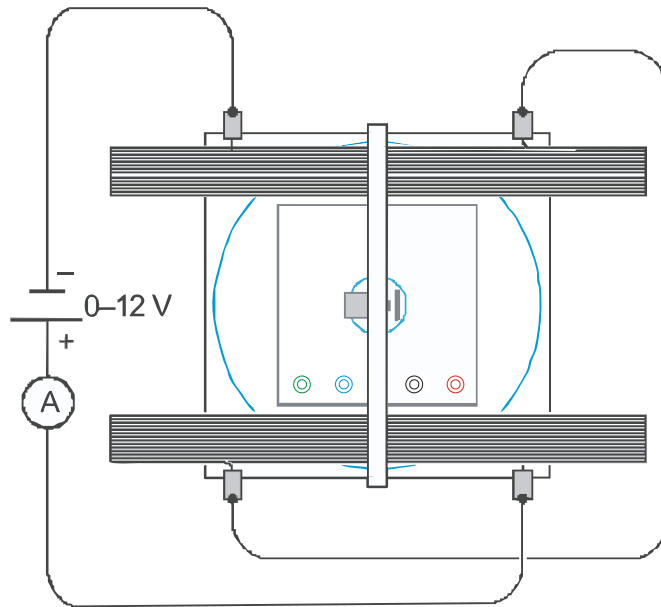

Fig. 2 Electrical connections to the pair of Helmholtz coils
- Connect the coils in series to the DC power supply 20 V U33020, as shown in Fig. 2, so that equal current passes through both coils.